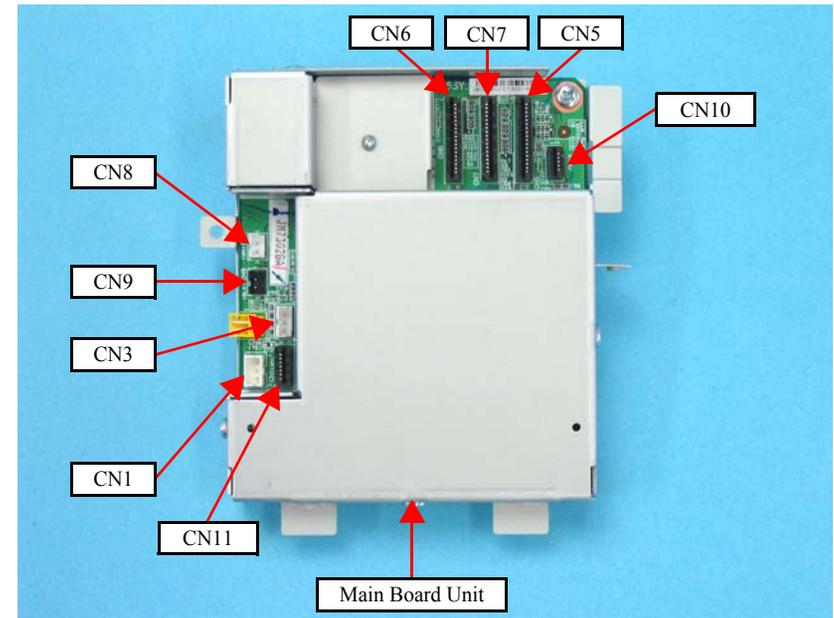

Figure 4-9. Connector Layout of Main Board
1. Disconnect the connectors of the Panel Unit FFC (CN11) and the Power Supply Unit (CN1) from the Main Board. (refer to Figure 4-9)